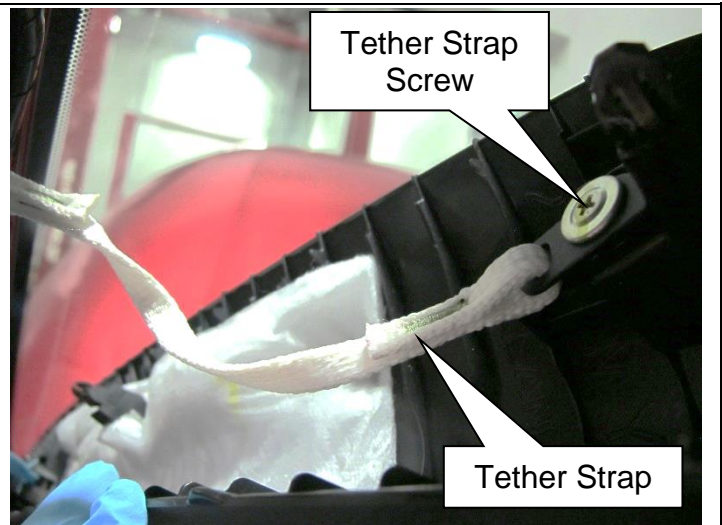

Figure 5
4. Remove tether strap fixing screw from front pillar garnish (Figure 5).